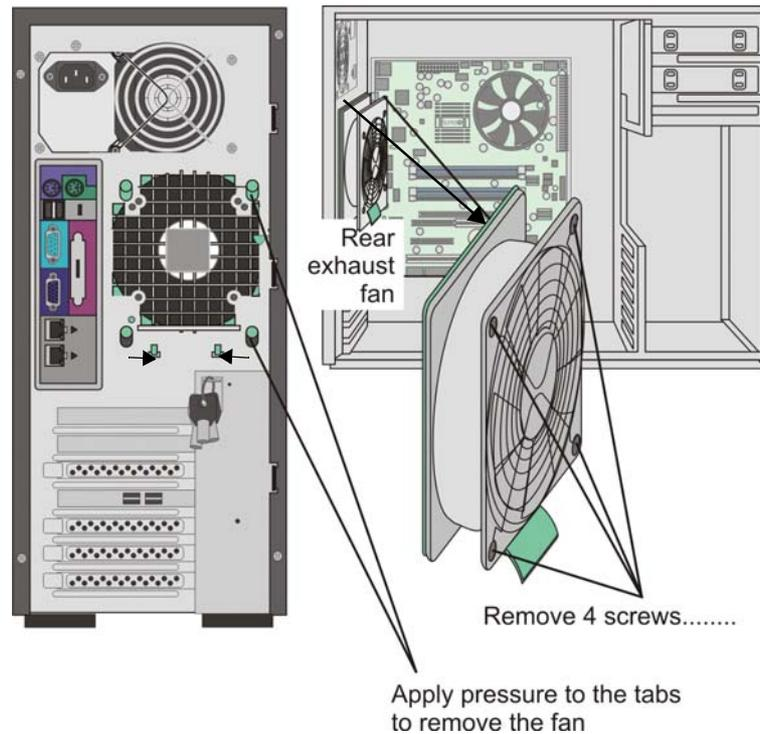

Figure 45: Rear fan
5. Press the two locking tabs, protruding through the outside of the rear of the server, outward. See Figure 45 on page 124.
- Remove the four screws that secure the fan to the rear-fan bracket. See Figure 45 on page 124.